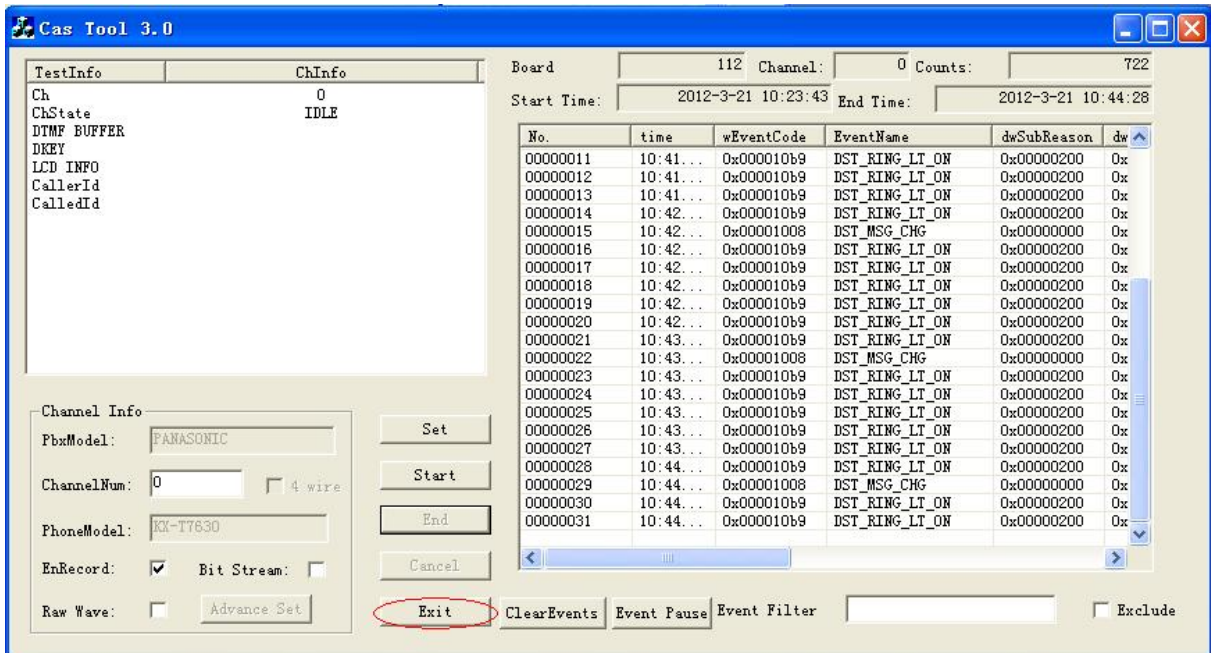

Figure 2-16
Step 12: Go back to the main interface and click on ‘Exit’ to exit the program. See Figure 2-16 below.